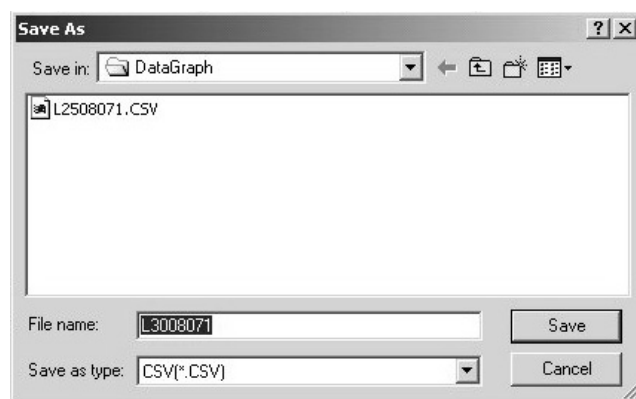

Fig.74
- The “Save As” dialog box (Fig.74) appears.